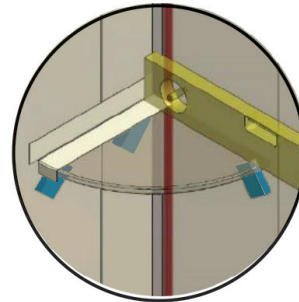

FIG 19.
- Place shelf in position and check for level. Optional - apply masking tape to shelf/wall (FIG 19).